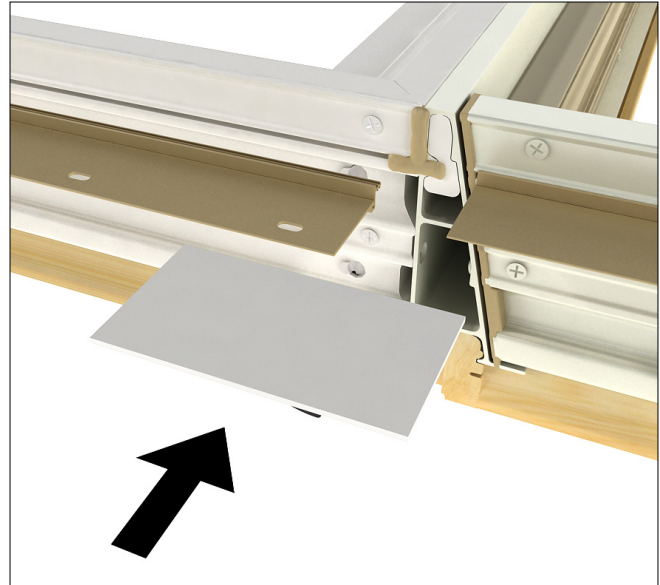

Figure 13
5. Apply a third clamp and wood blocks to interior as needed. Make sure mullied units are flush and square at the sill and jamb liners. Fasten interior of mullied units with 1/2"x1" 16 gauge staples spaced every 4" (102).
6. Apply silicone sealant at the mullion from the frame exterior edge to the drip cap/nailing fin kerf and across the kerf over the mulling pin as shown in illustration 6. Apply nailing fin connector at the jambs by removing the paper backing from the connector and pressing into place. See figure 13.